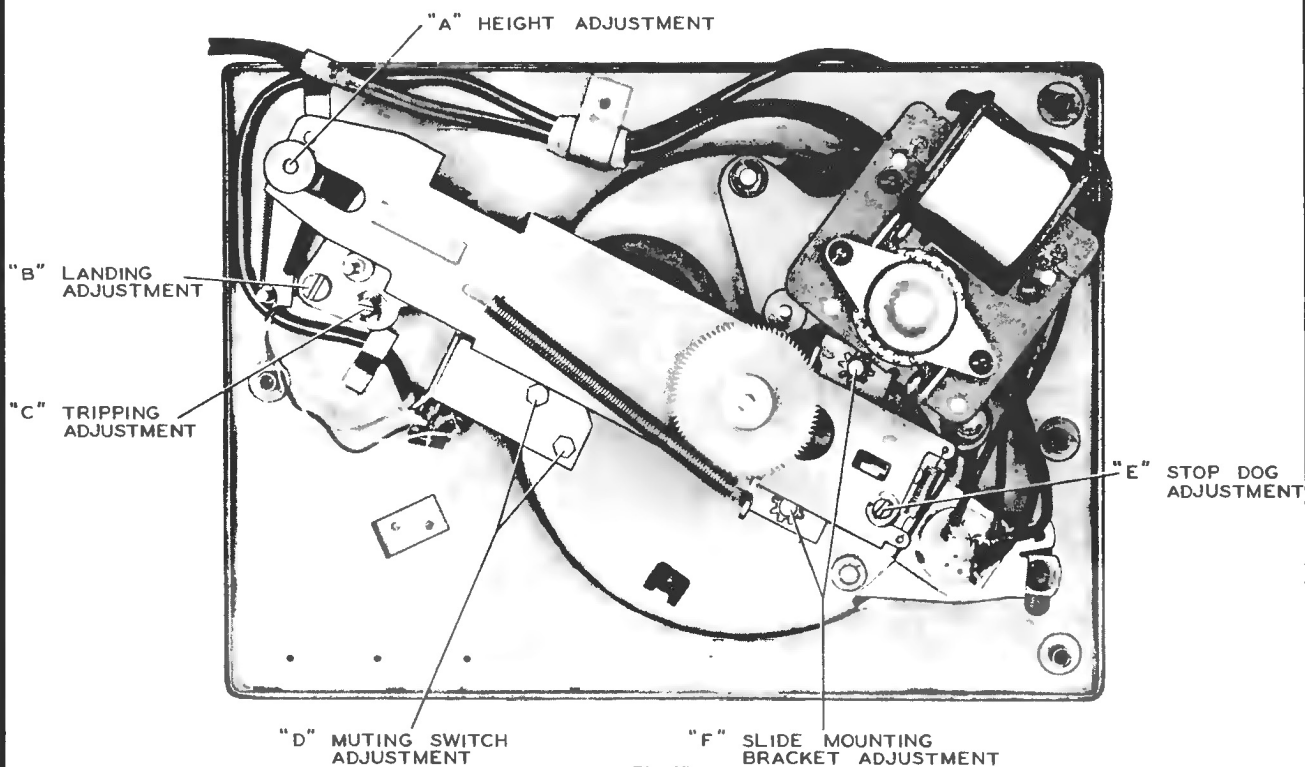

Fig. 38
Under ordinary conditions the landing adjustment is a screwdriver adjustment as shown. The adjustment of eccentric landing adjustment stud (B) gives approximately a $\frac{1}{4}$ " movement. (See Figs. 38, 40.)
5. Exact landing adjustment can now be made by a screwdriver on stud (B). (See Fig. 38.)
Pickup Height Adjustment (See Fig. 38):
Mounting Bracket Adjustment (See Fig. 38):
Muting Switch Adjustment (See Fig. 38):
Stop Dog Adjustment (See Fig. 38):